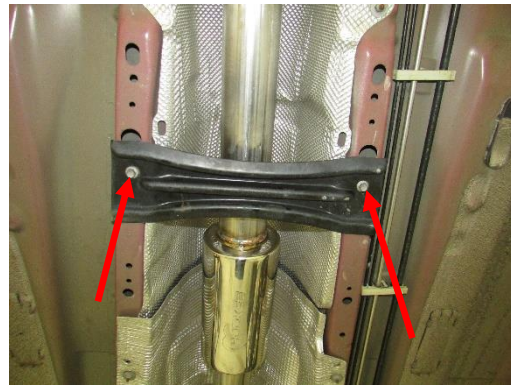

Figure 7
2. Install the cross brace and tighten (x2) 10mm head bolts (Figure 7).